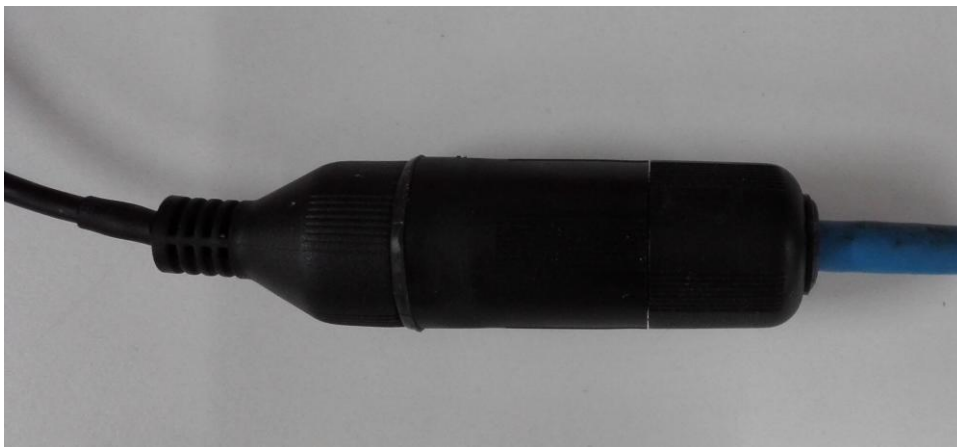

Figure 3-10
- 5) After the connection, you can see the following interface. See Figure 3-10.